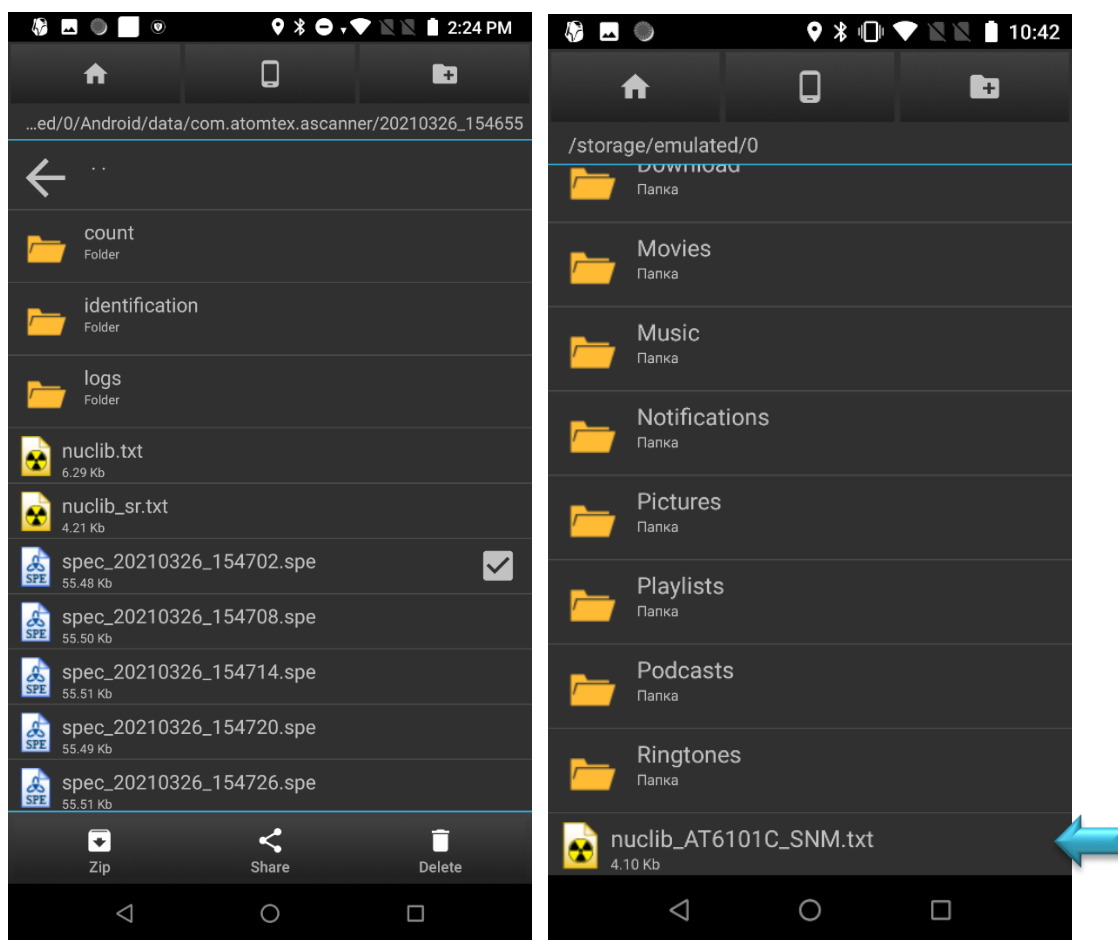

Figure 19 – Selecting the custom nuclide library file
1. Copy the library file “**nuclib_AT6101C_SNM.txt**” to PDA (see Figure 19) (any location, for example, to the root folder)